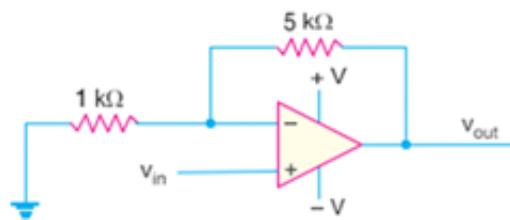

Figure 3.35: Problem 7
7. For the non-inverting amplifier circuit shown in the figure 3.35, find the peak-to-peak output voltage when  $V_{in} = 2 \text{ V}_{pp}$ , and sketch the input and output waveforms.